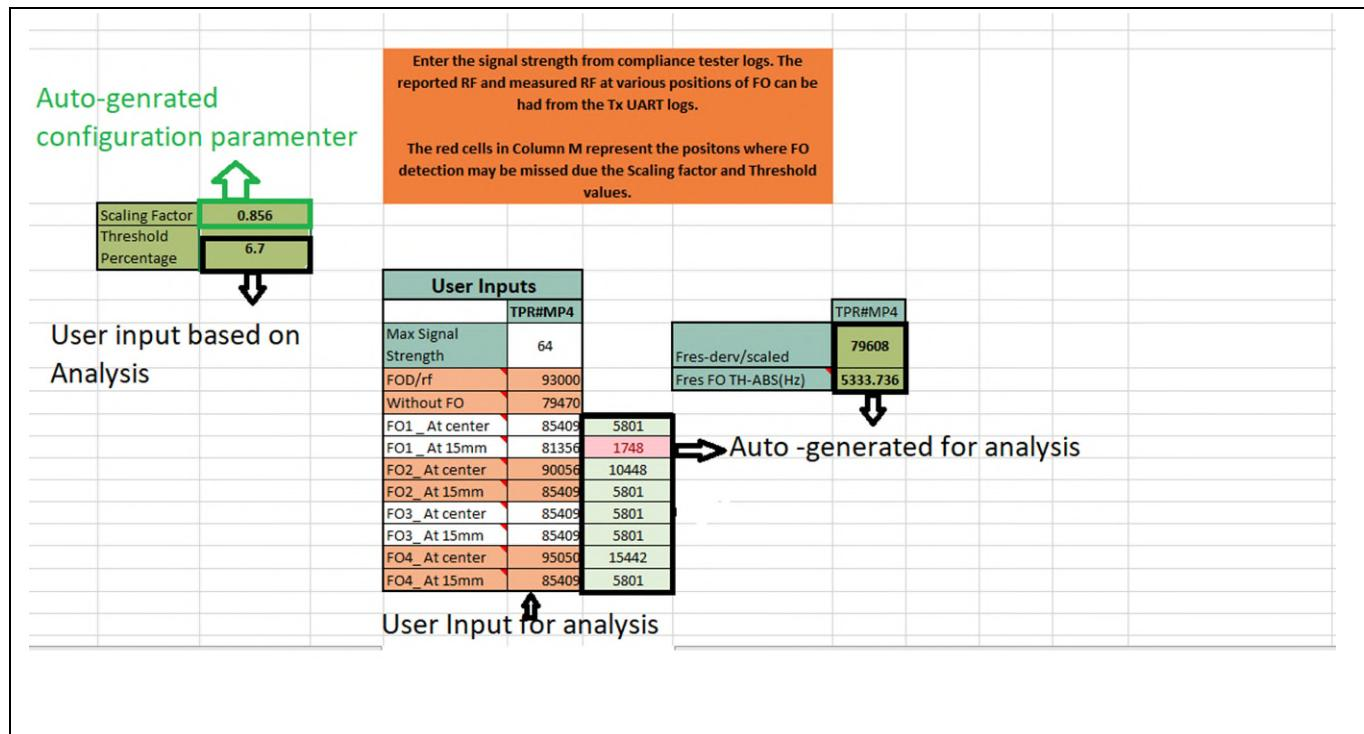

Figure 19 Reference view for resonance frequency measurements data
8. Repeat Steps 4, 5, and 6 for FO2, FO3, and FO4. Record the data in the respective FO rows (see Figure 19).
9. Use the analysis in Figure 19 for reference while tuning the scaling factor and threshold tuning parameters. Tune the FOD threshold for resonance frequency to get the maximum coverage of FOD (the green color in Figure 19 indicates the FO detection).